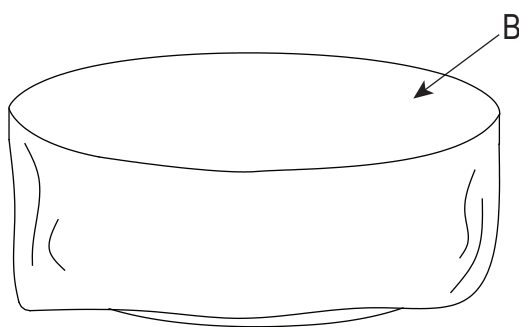

Figure 4
5. Cover the fire pit with the outdoor weather cover (B) when not in use to protect it from the elements or when fire pit is cool COMPLETELY after the use (See Figure 4).